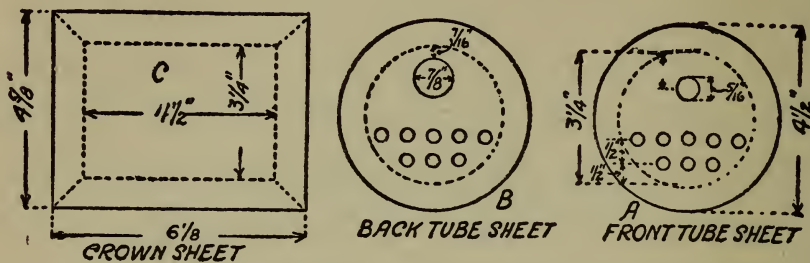

Fig. 57. The Front Tube, Back and Crown Sheets
*The Front Tube Sheet.*—Now make the *front tube sheet*, as shown at A in Fig. 57. Cut out a disk of sheet copper  $\frac{1}{8}$  inch thick and  $4\frac{1}{2}$  inches in diameter and hammer the edge of it over all round to form a flange  $\frac{5}{8}$  inch wide, when the sheet will just fit into the boiler.
*The Back Tube Sheet.*—Next cut out the *back tube sheet* as shown at B in Fig. 57 and make it the same size as the front tube sheet. Drill the same number of  $\frac{1}{4}$ -inch holes through it for the boiler tubes and also drill, or cut out, a  $\frac{7}{8}$ -inch hole with its center  $\frac{7}{16}$  inch from the flange. The purpose of this hole is to form a continuation of the boiler on back to the sheet; the throttle rod also passes through this hole; but it is part through before the back tube sheet is riveted in.
*The Crown Sheet.*—Cut out the *crown sheet*, see C in Fig. 57, that is the flat horizontal sheet that separates the upper back part of the boiler from the fire-box. Cut this sheet  $4\frac{5}{8}$  inches wide and  $6\frac{1}{8}$  inches long and hammer over the edge